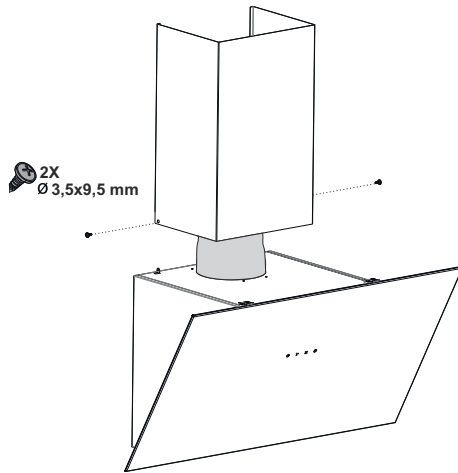

Fig. 15
- Screw the flue to the body from the right and left side (Fig. 15).